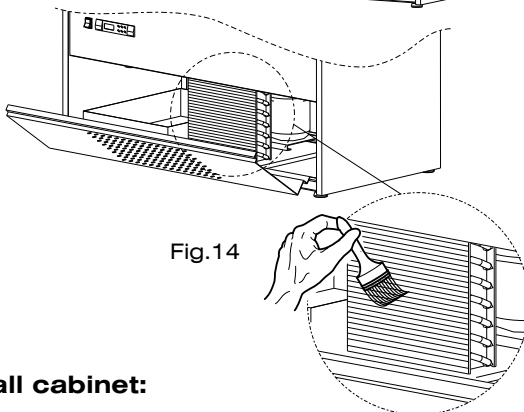

Fig.14
- Remove dust, dirt and various debris, using a soft brush or a paint brush and a vacuum cleaner (See fig.14)